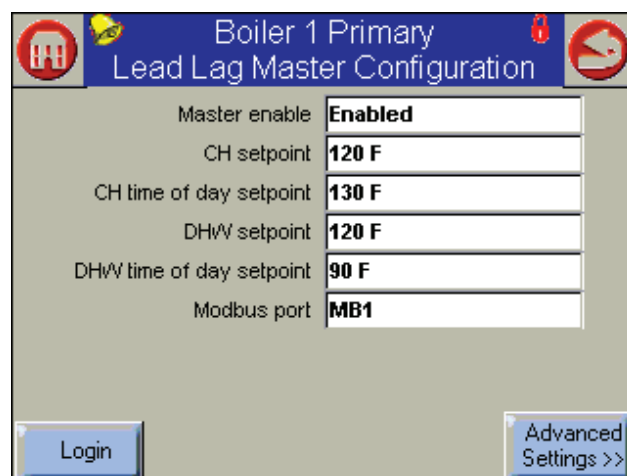

Fig. 85 – Lead/Lag Master Configuration
4. Press the Configure button. The display will present the Lead/Lag Master Configuration Screen (Fig. 85).
This is the same as the LL CH Setpoint on the Lead/Lag Master Configuration screen (Fig. 85).
This is the same as the LL CH Time-Of-Day Setpoint on the Lead/Lag Master Configuration screen (Fig. 85). (See the material on “About the ‘Time of Day’ Function at the end of this section.)